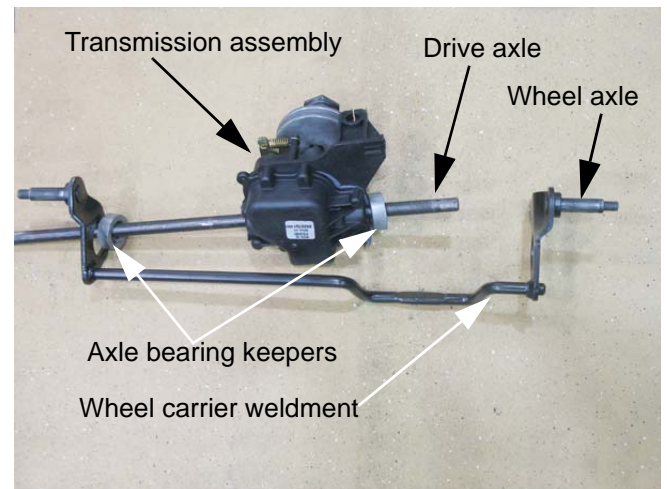

Figure 6.14
- 5. Remove the transmission from the wheel carrier weldment. See Figure 6.14.